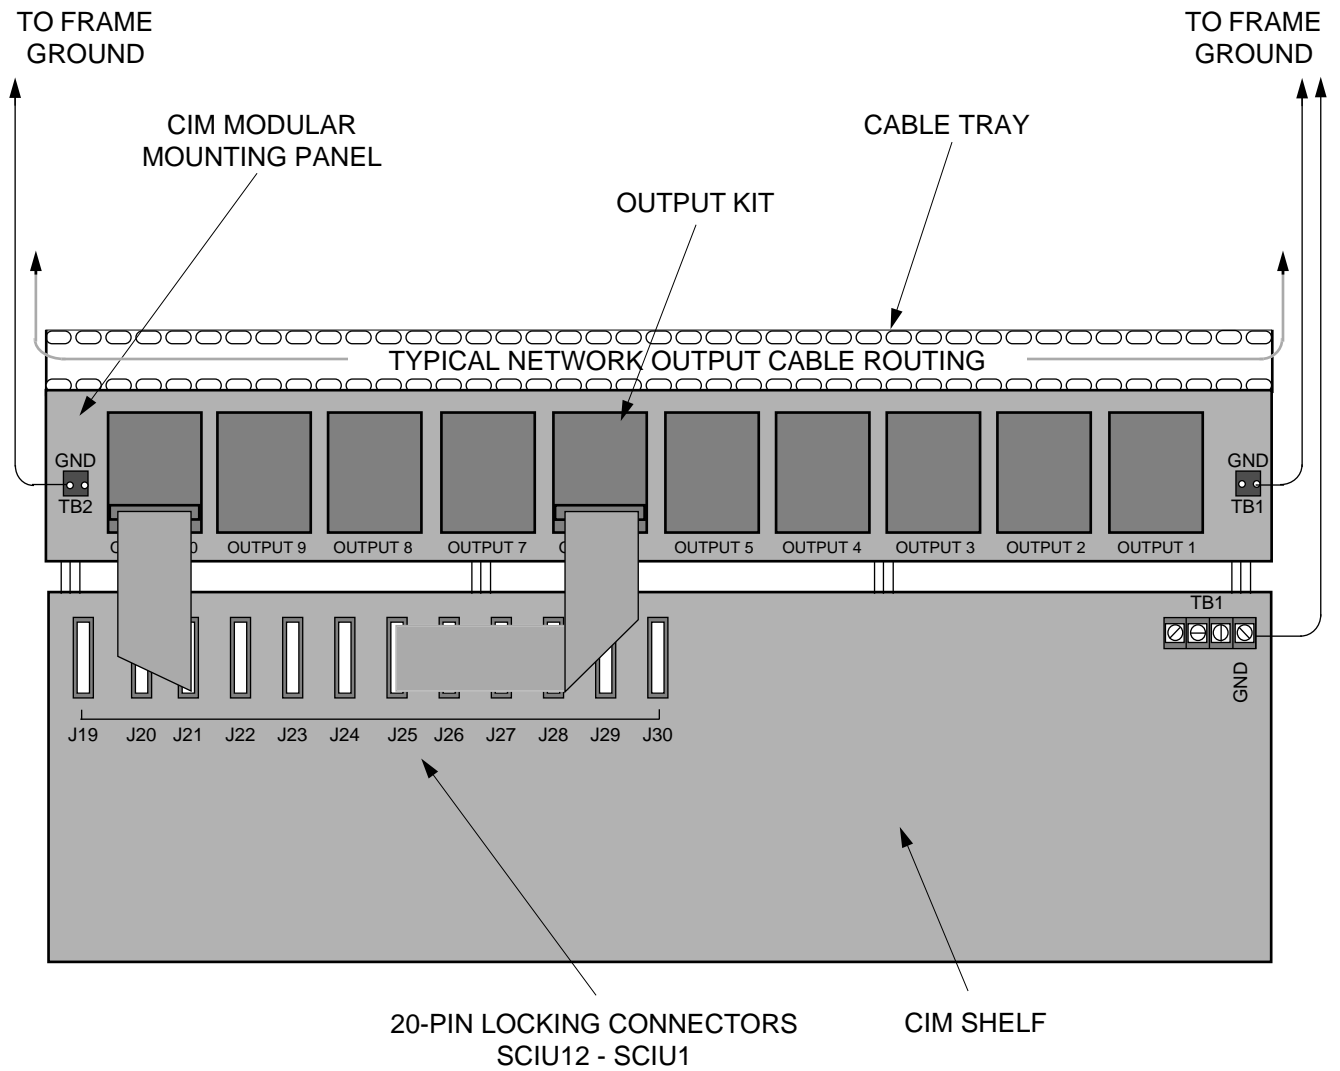

Figure 10. DCD-CIM Modular Mounting Panel Cabling (Rear View)
8. **If configuring the DCD-CIM for unprotected output slots:** Connect the 20-pin locking connectors of SCIU 1 through SCIU 12 (J19 through J30) on the shelf backplane to the appropriate output module connector on the MMP (see Figure 10 and Table K).